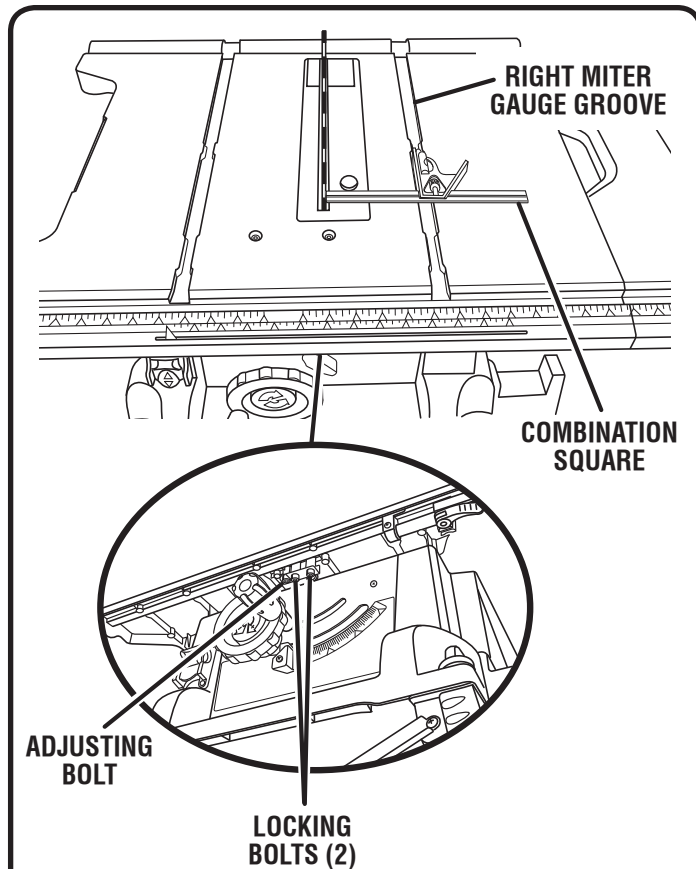

Fig. 34
See Figures 34 - 35.
- Mark beside one of the blade teeth at the front of the blade. Place a framing square even with the front of the saw table and the side of the saw blade as shown in figure 34.